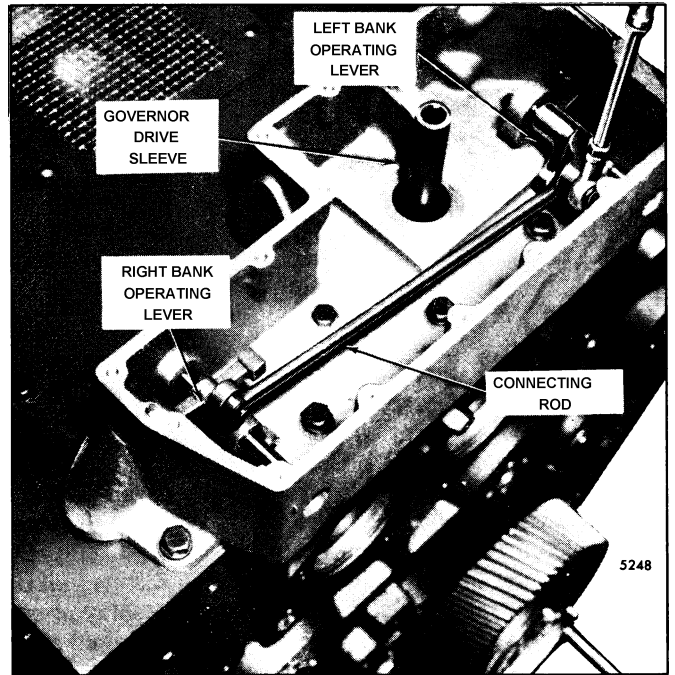

Fig. 2 - Governor Operating Linkage (Current)
On current engines, the fuel rods from each injector control tube are connected to operating levers in the governor control housing and the vertical link connects the governor operating lever with the left bank operating lever (Fig. 2).
4. Remove the spring retainers and washers securing the connecting rod to the right and left bank operating levers (Fig. 2).